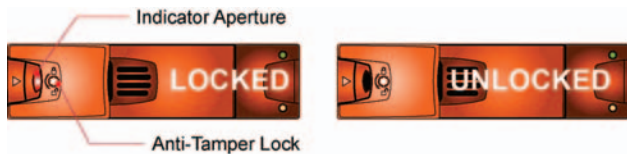

Figure 17: Drive Anti-Tamper Lock
4. The camming foot on the base of the carrier will engage into a slot in the enclosure. Continue to push firmly until the handle fully engages. A click should be heard as the latch engages and holds the handle closed (see Figure 17).